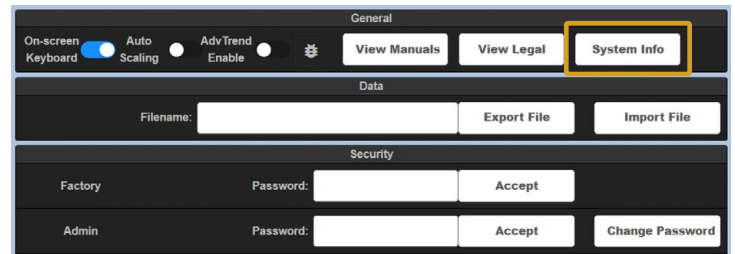

Figure 2
3. On the General settings screen, click the **System Info** button in the top-right corner. See *Figure 2*.
6. On the General settings screen, click the **System Info** button in the top-right corner. See Figure 2.